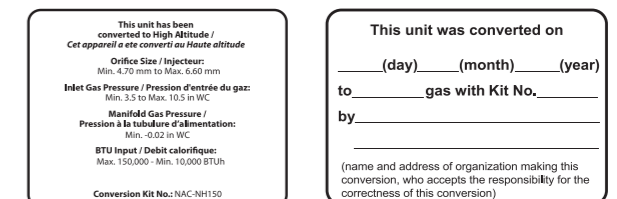

Figure 11. Proper Placement of High Altitude Conversion Labels
13. Once the CO2 or offset values have been confirmed, apply the included conversion stickers to show that the appliance has been converted to High Altitude. Place these labels adjacent to the rating plate as shown in Figure 11.